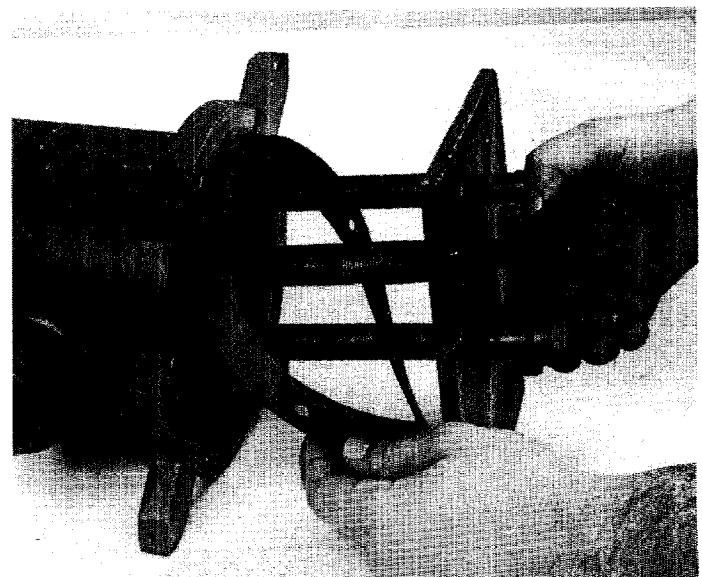

FIGURE 24 - Removing Drum End Plate, Including Water Coil and Gasket
- b. Remove the end plate with attached coil and gasket. Refer to Figure 24.